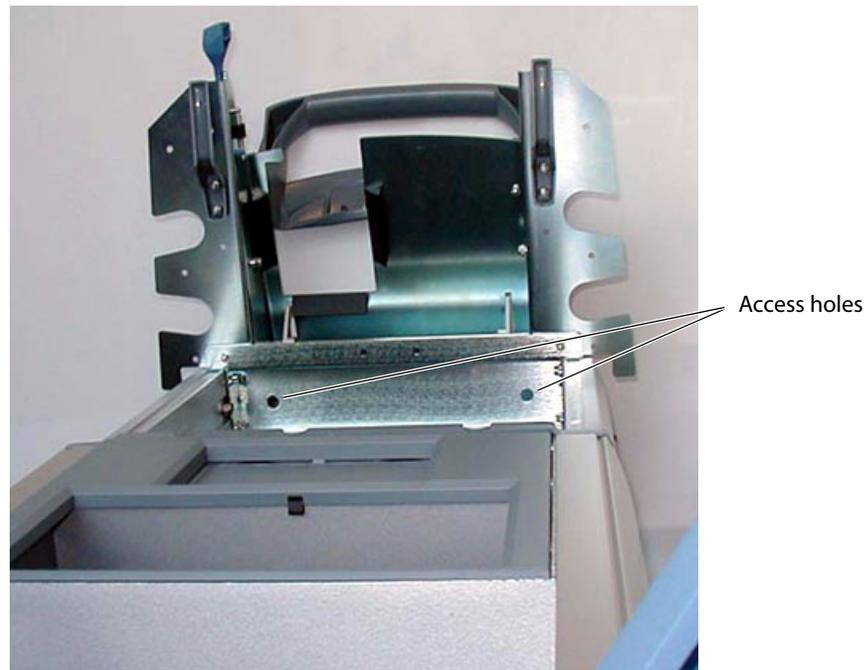

Figure 9.18 Mini-Dock Access Holes
- 4 Looking under the top of the docking system note two access holes per Figure 9.18. These access holes are to remove the two (2) screws holding the mini-dock in place.